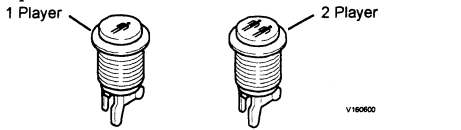

Figure 2: Start Buttons
15. Notice that there are two white buttons. See figure 2. The WHITE buttons are START buttons. Install the PLAYER ONE button on the top left-hand side of the control panel, and the player two button on the top right-side of the control panel.